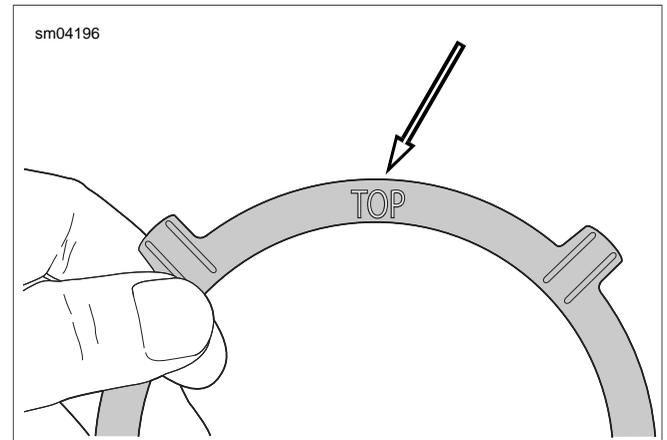

Figure 4-10. Cam Ring Stamp
8. Install cam ring over fuel tank top plate with the TOP stamp up. See Figure 4-10.